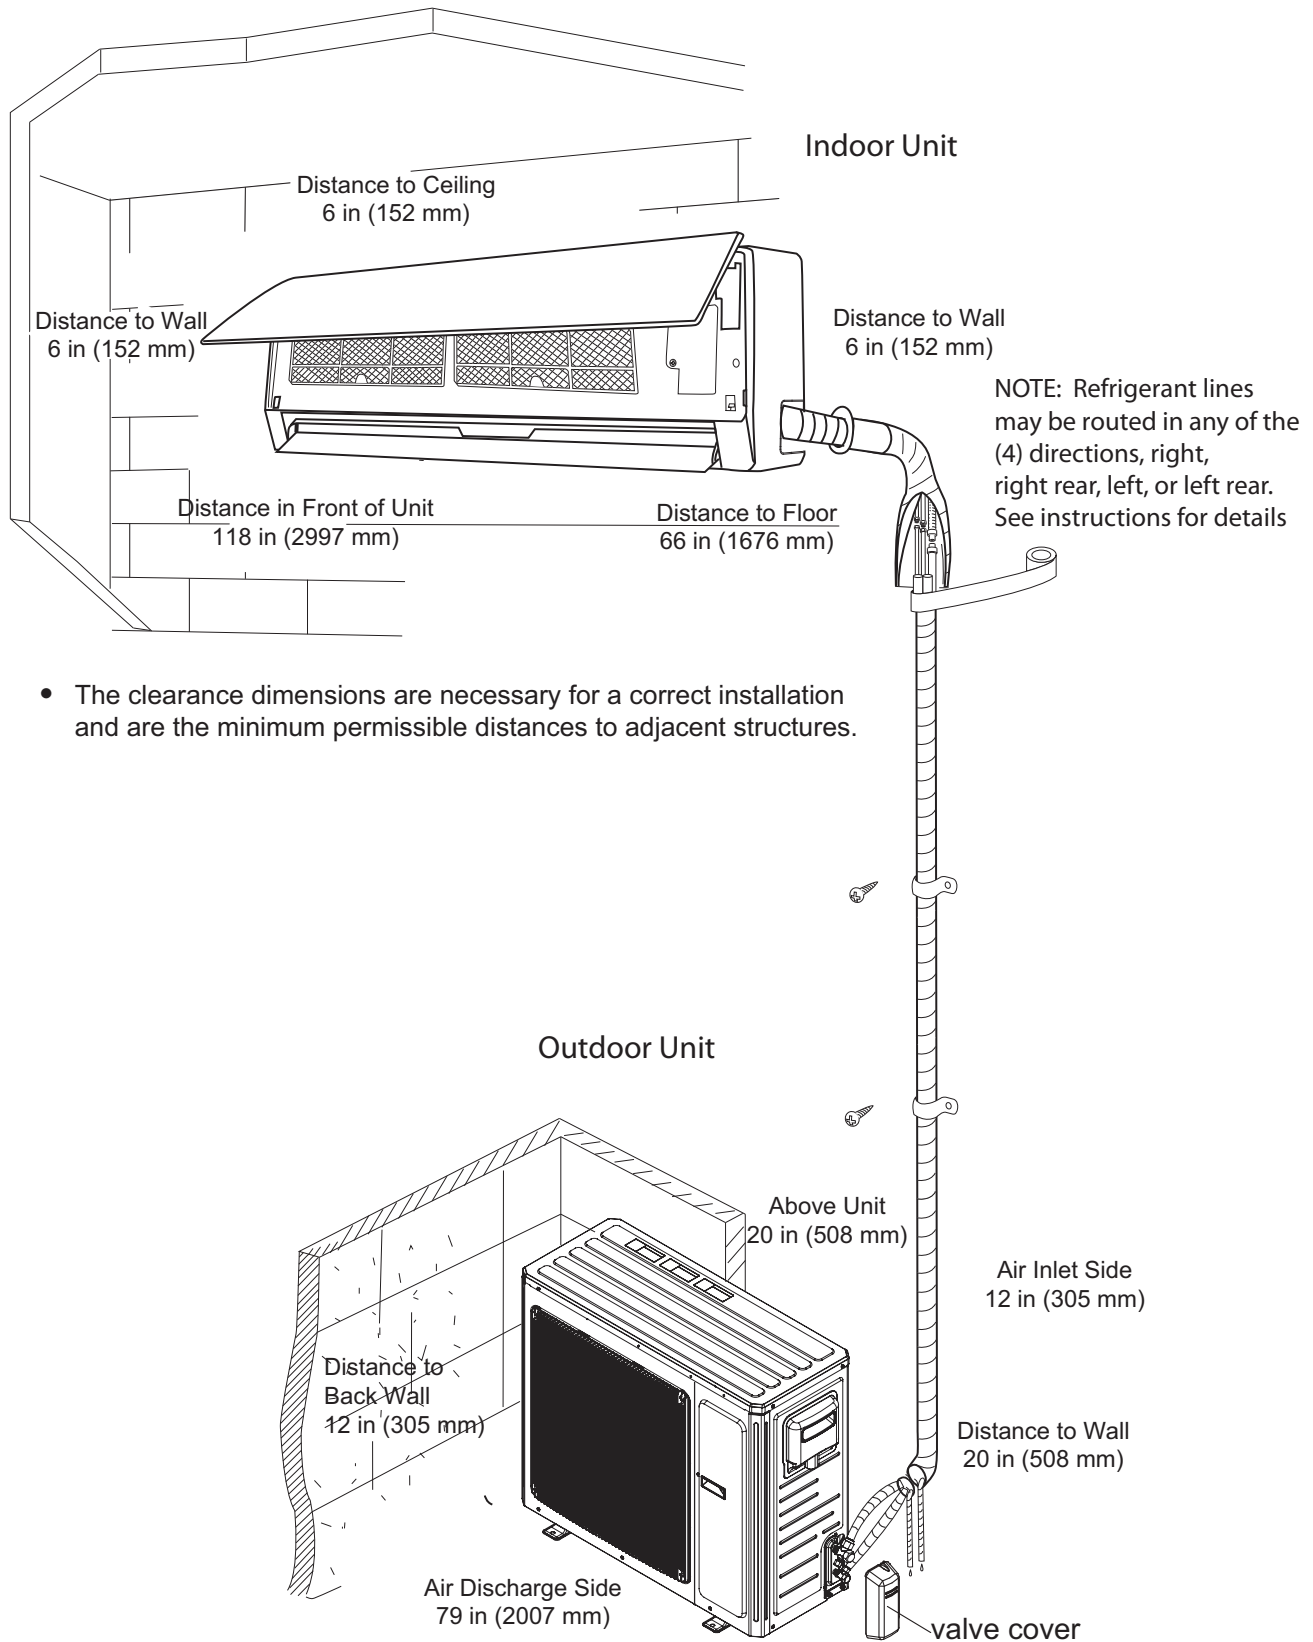

Fig. 5 – Indoor and Outdoor Unit Clearances
Allow sufficient space for airflow and servicing unit. See Fig. 5 for minimum required distances between unit and walls or ceilings.
- A location which provides appropriate clearances as outlined in Fig. 5. Be sure to leave enough distance to allow access for routine maintenance. The installation site should be 66 in (1676 mm) or more above the floor.
- A location which provides appropriate clearances as outlined in Fig. 5.